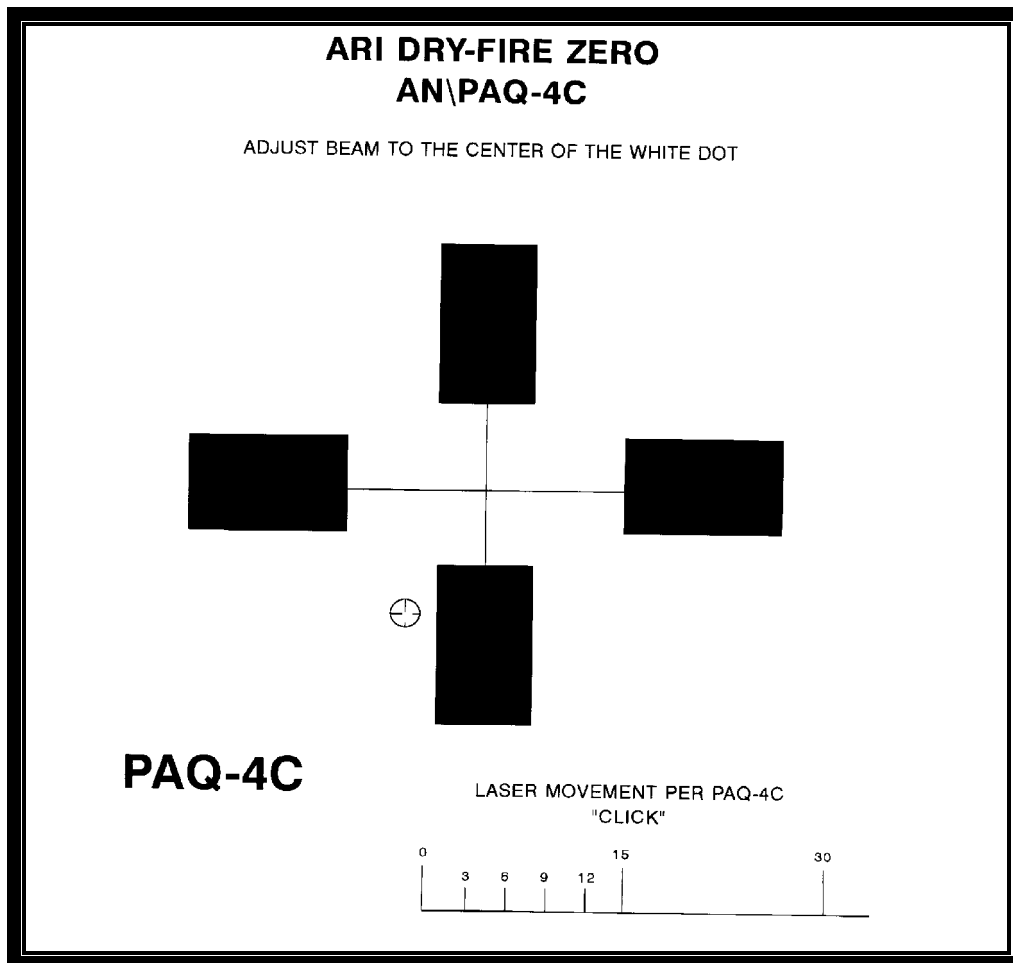

Figure 4
(1) Use the specially designed AN/PAQ-4C “ARI DRY-FIRE ZERO” target on which a white dot is marked **27 mm below and 17 mm left of center mass of the target** (See Figure 4 below. See Chapter 4 of the 82d Abn Div OTN Individual Training Package for a full-sized reproducible copy of the ARI). This is the target to use during the zeroing process. Field expedient methods of zeroing the AN/PAQ-4C will be covered at the end of this section.